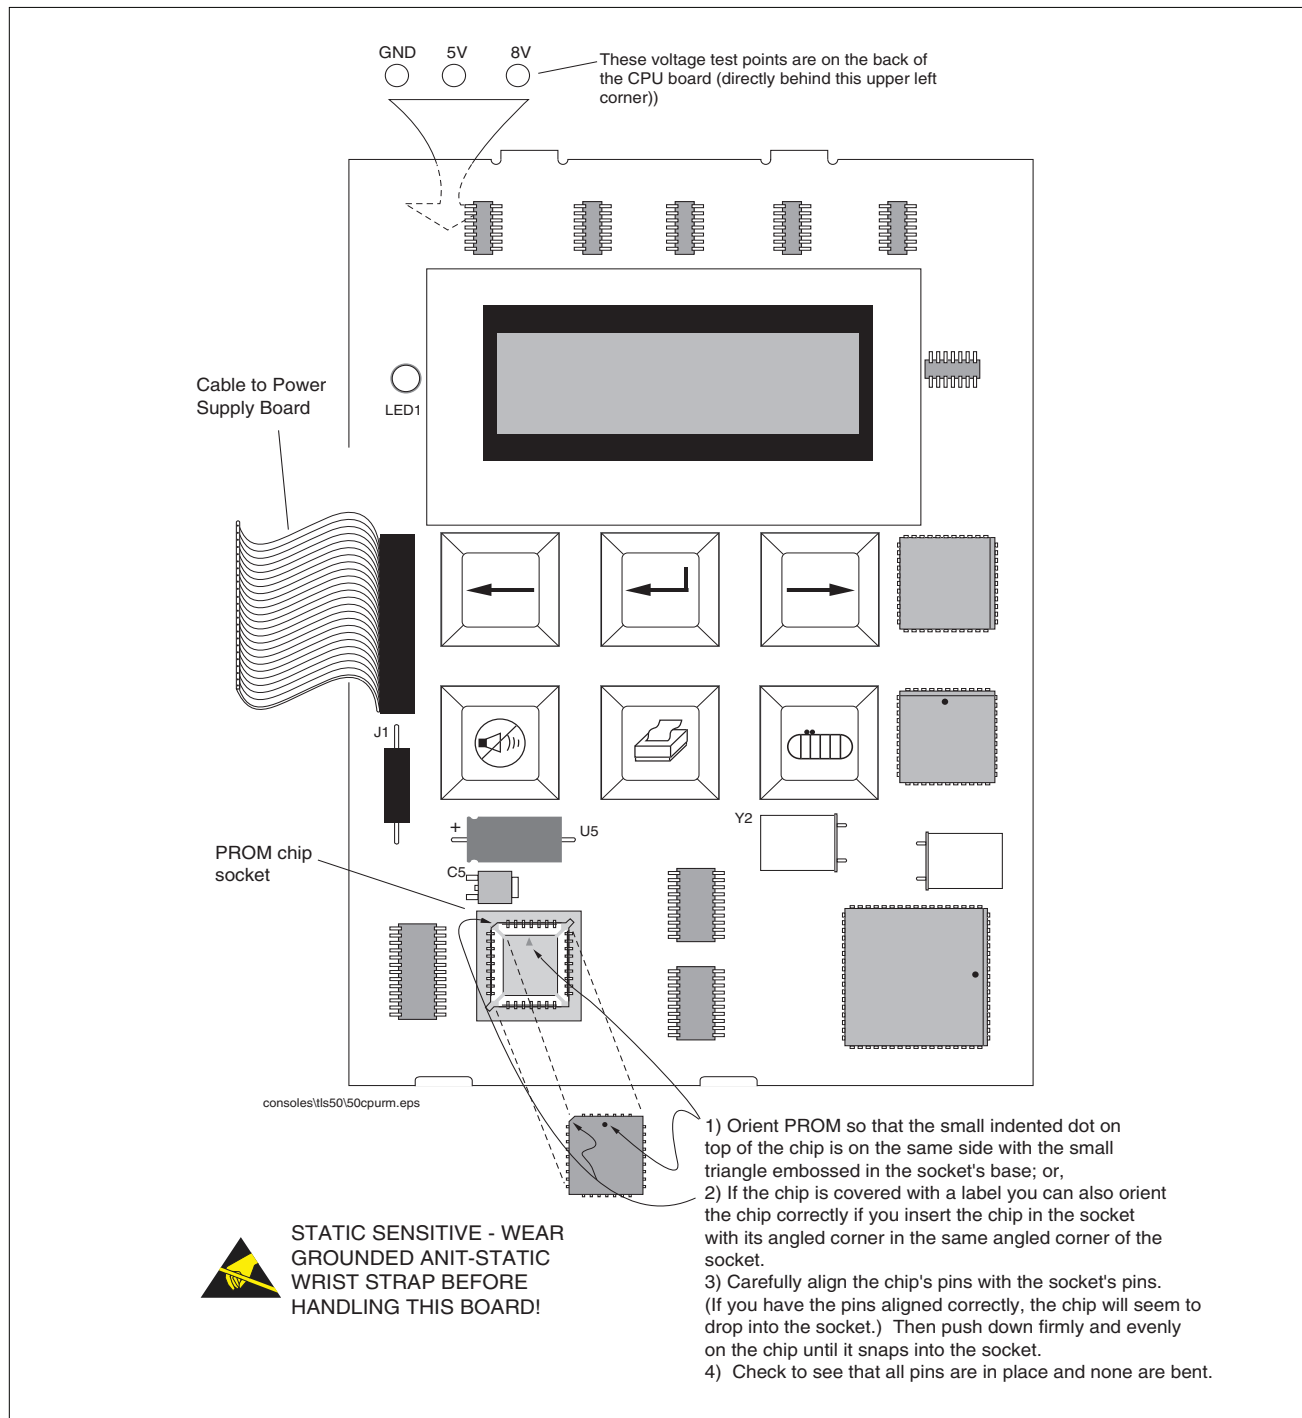

Figure 21. Replacing PROM Chip
7. Replace the PROM chip following instructions in Figure 21.